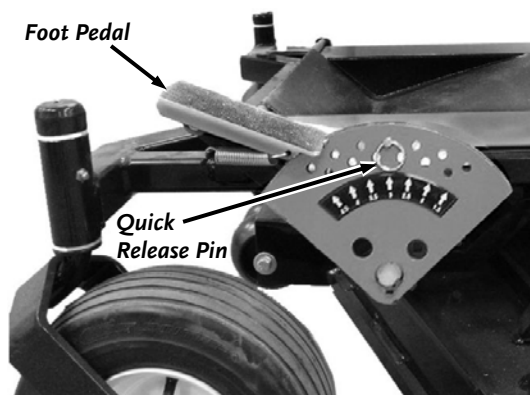

Figure 26
11. Push the Foot Pedal forward to lift the Deck Height Adjuster as high as possible and pin it in place with the Quick Release Pin (**Figure 26**).